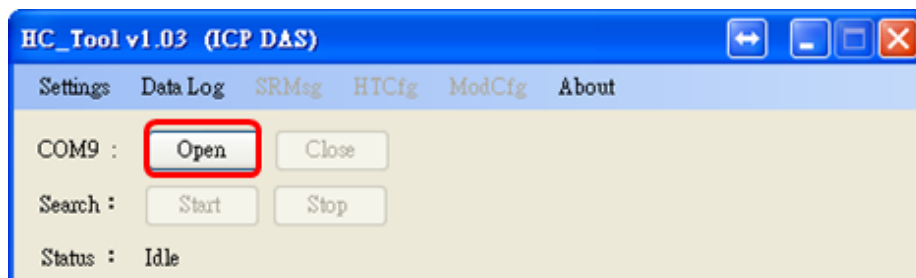

Figure 3-3: Click the “Open” button
Step4: Click “Open” button to open the com port of PC like Figure 3-3.